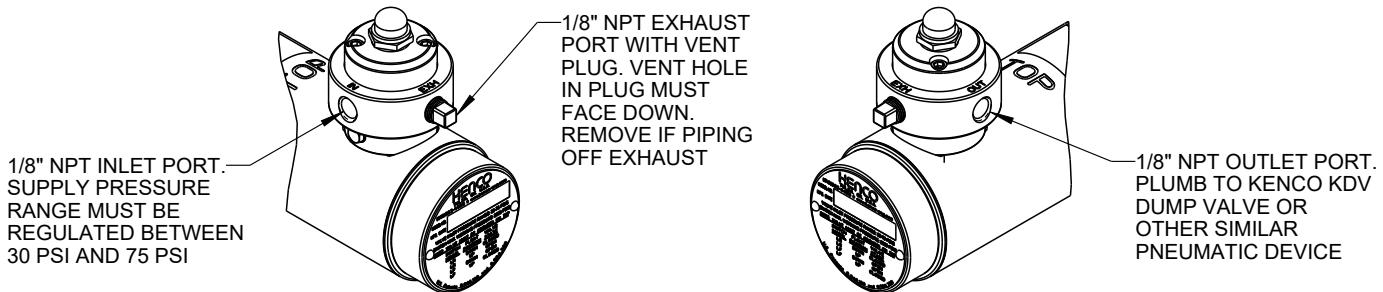

FIGURE 1
1. For plumbing instructions, refer to Figure 1. When plumbing the valve, use a quality thread sealer. Take care not to use too much sealer since the excess could enter the valve and inhibit proper operation. Connect the supply line to the inlet port of the KPFS valve. If using a KPFS with the -R option (supplied filter/regulator), connect the Kenco regulator to the inlet port of the KPFS valve and the supply line to the inlet port of the filter/regulator. **Note: The pneumatic source must be clean and dry instrument quality air or gas. If dirt and/or moisture are allowed to enter the valve, it could inhibit proper operation.**